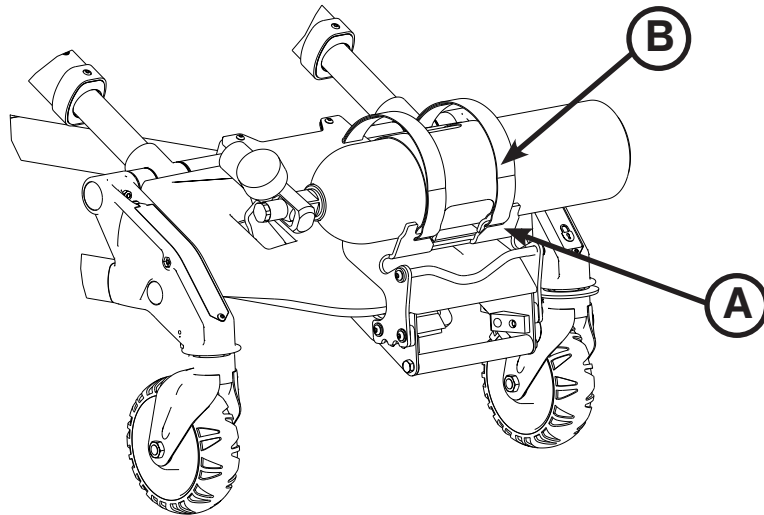

Figure 34: Oxygen Bottle Holder
1. Center the oxygen bottle on the cradled surface of item (A) as shown in Figure 34.
2. Tighten both straps (B) around the oxygen bottle.